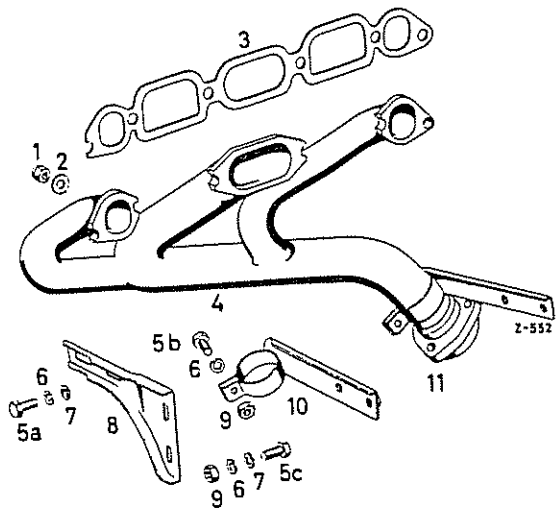

Fig. 01-4/19
1. Screw out the two hexagon screws (5a) for fastening the halder (10) to the support (8) and unscrew the hexagon screws together with nuts on the three-hole flange (11) (Fig. 01-4/19). Then unscrew the exhaust manifold and remove.
2. Test gasket (3) for intake pipes and exhaust manifold. Damaged gaskets should be replaced. For this purpose, remove intake pipes (Fig. 01-4/19).
3. Hold exhaust manifold to cylinder head and tighten hexagon nuts. Tighten hexagon nuts on screw of three-hole flange (11) and hexagon screw (5 a) which hold bracket (10) to support (8).